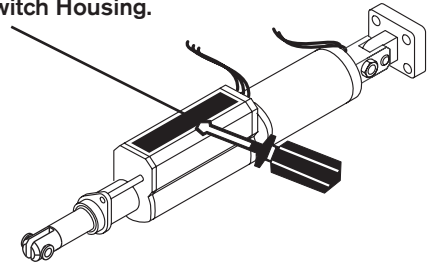

FIGURE 2
2. Remove the Rubber Sealing Strip from the Limit Switch Housing (See Figure 2).